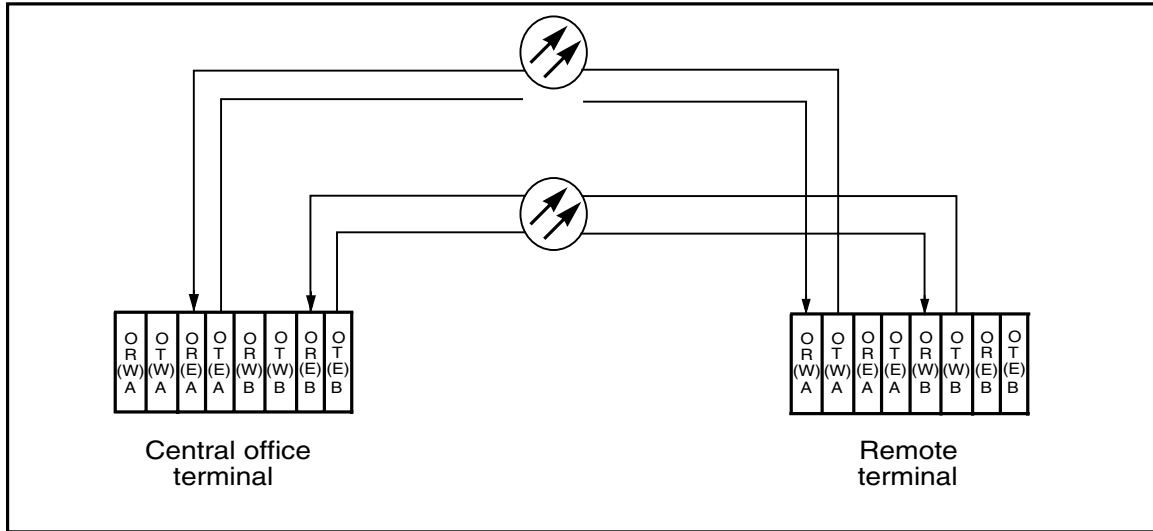

Figure 2. Fiber Configuration Before WDM Integration
Note 3: Figure 2 and Figure 3 illustrate how this procedure changes the fiber configuration in and between the Litespan terminals.
Figure 2 shows four fiber-optic cables carrying TDM traffic between two terminals. Two of the fibers provide protection.
3. Pull the ejector lever at the base of the standby B-side west 1310-nm OTU and remove the unit from its slot. Refer to Figure 2.
5. Insert the 1550-nm OTU into the B-side OT(W) slot without seating the card.
11. Pull the ejector lever at the base of the standby A-side west 1310-nm OTU and remove the unit from its slot. Refer to Figure 2.
13. Insert the 1550-nm OTU into the A-side OT(W) slot without seating the card.